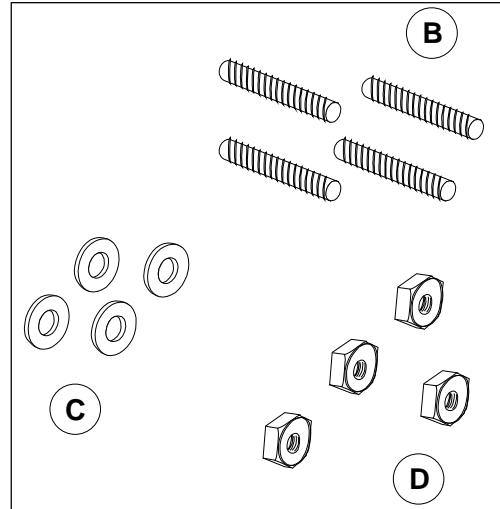

Figure 4
2. Install the four threaded studs (B, Figure 4) into the threaded openings on the inside face of the grille.